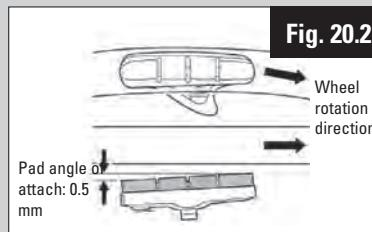

Fig. 20.2
3. Pad angle position adjustment (4 mm Allen key, fig 20.2)